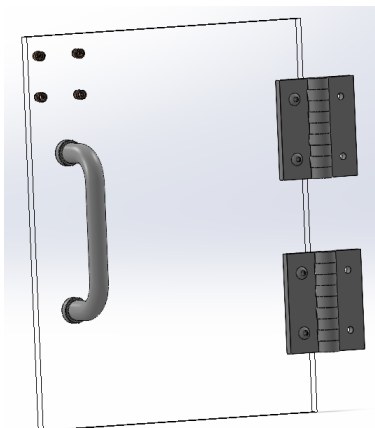

Fig. 18. Hinges installed on the acrylic door.
2. Screw the plastic hinges onto the outer side of the door using the 3/8" 8-32 screws, see Fig. 18.